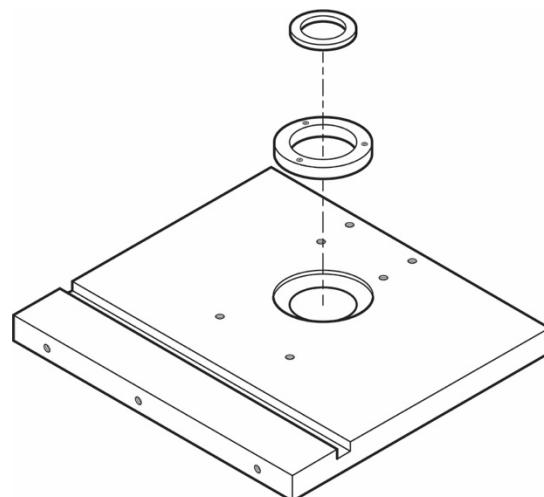

Figure 8
3. Loosen and remove the three 1/4-20 x 1/2 set screws from the ring (Figure 8).